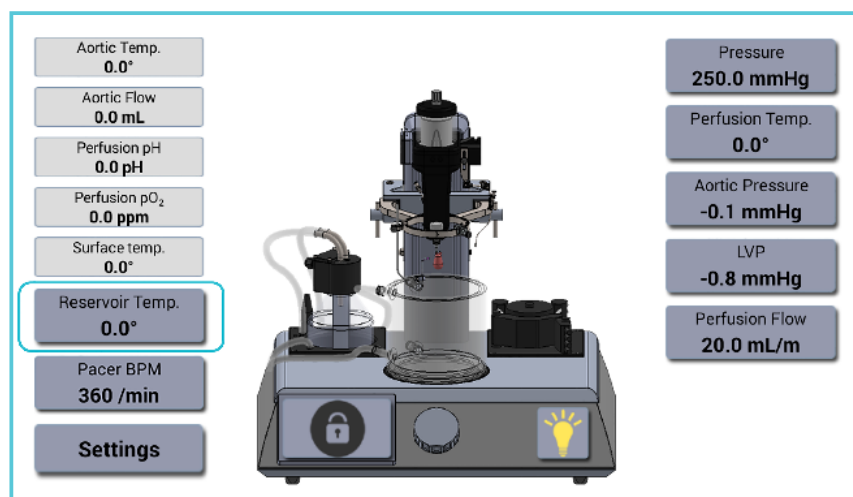

Fig.31. Reservoir Temp. menu.
- Turn on the reservoir heating unit by choosing the Reservoir Temp. menu in the Main Menu left side (fig.31.).